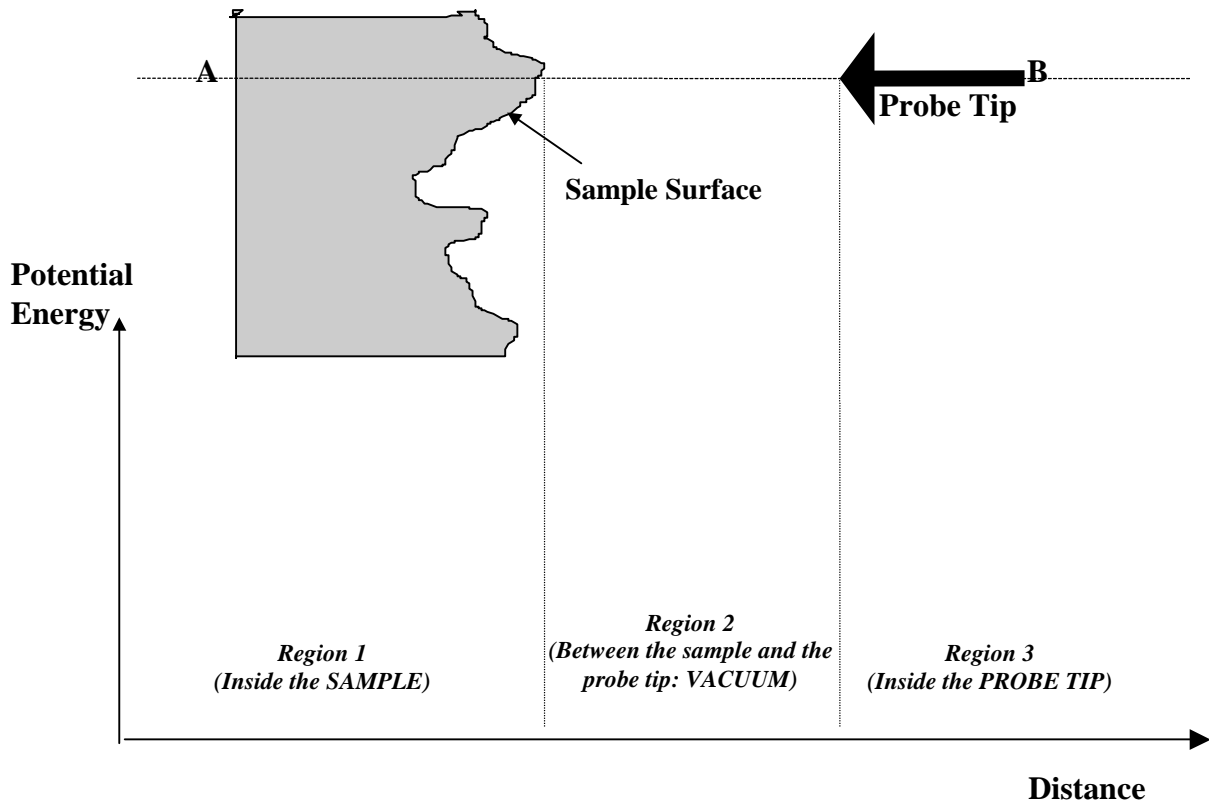
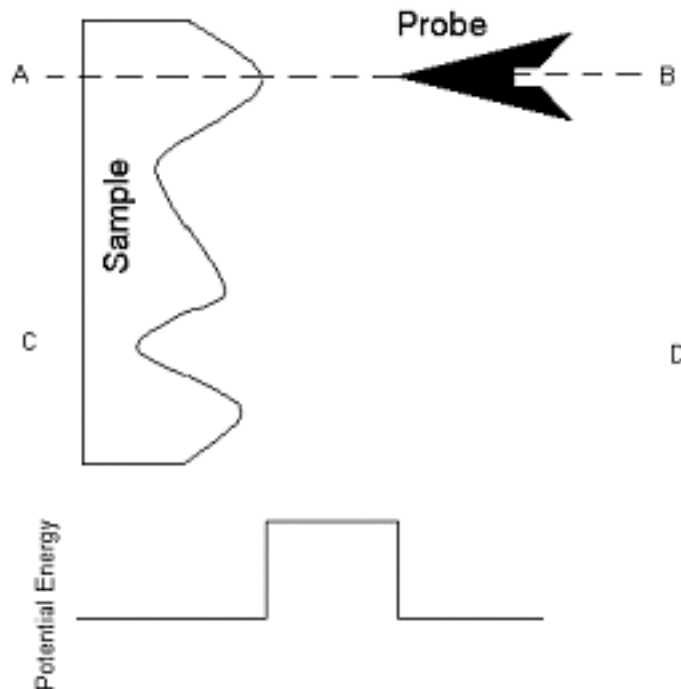

Figure 5: Potential energy diagram for an electron in a scanning tunneling microscope.
Figure 6: The potential energy diagram for an electron moving on line A-B.
- A-1. Based on this fact determine the potential energy diagram for an electron moving along the line A-B in the three regions specified in Figure 5. Sketch the potential energy diagram in the lower part of Figure 5.
Figure 6 shows a result similar to Figure 5. Here the potential energy diagram has been drawn for you.
A-3. Suppose the probe is moved to C-D in Figure 6. Sketch the potential energy diagram for this situation.